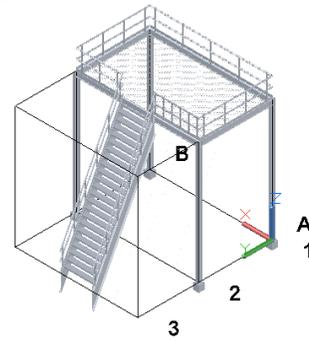

*Figure 3-48* Points to be selected to create the railing
3. Invoke the **Railing** tool again and select the points, as shown in Figure 3-48; a railing is created between the selected points. Next, press ENTER.